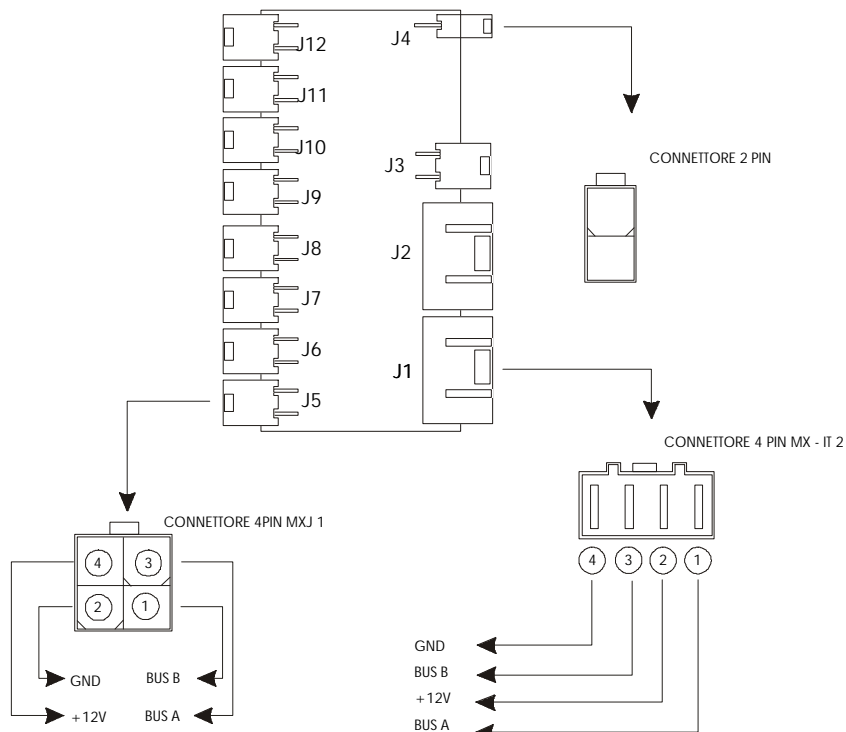

Fig. 1 "Power Hub"
The device mainly comprises three types of connectors. Connector J1, Fig. 1, normally considered the device input, has the same terminals, i.e. shared, with connectors J2 and J3 which are considered purely as simple feedthroughs.
(also see Fig. 1)
- J12 Molex "*mini-fit Jr*" code **MLX5569-04** with the contacts arranged as follows (also see Fig. 1)
- J12 Molex "mini-fit Jr" code **MLX5569-02A2** with the contacts arranged as follows (also see Fig. 1)